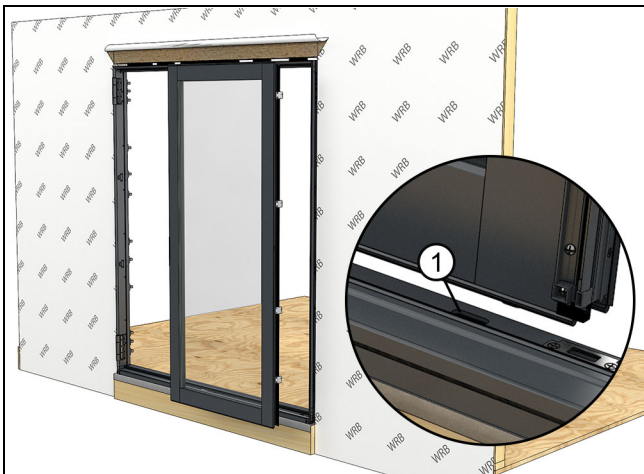

Figure 55 Inset shown from the interior.
1. Install the stationary panel. Set the panel on the sill, and align the sill bolts with the holes in the sill. Tip the panel into place. See Figure 55.